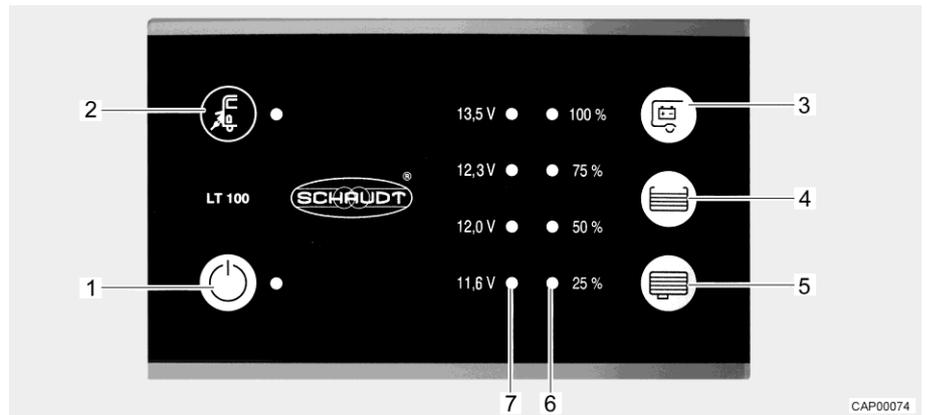

Fig. 41 Panel (LT 100)
**Mains connection** The yellow LED at the mains connection symbol "⚡" (Fig. 41,2) is lit when the vehicle is connected to an external mains supply. In this case, the LED will also be lit when the panel is switched off.
The 12 V main switch (Fig. 41,1) switches the panel and the 12 V power supply of the living area on and off.
**Switching on:** ■ Press switch "⏻" (Fig. 41,1): The 12 V living area power supply is switched on. The LED lights up green.
**Switching off:** ■ Press switch "⏻" (Fig. 41,1) again: The 12 V living area power supply is switched off. The LED goes out.
The LED array (Fig. 41,7) displays the battery voltage of the living area battery as follows:
- Press the button " " (Fig. 41,3): The battery voltage of the living area battery is displayed.
The LED array (Fig. 41,6) displays the fill level of the fresh water tank or of the waste water tank.
Press the button "☰" (Fig. 41,4): The fill level of the fresh water tank is displayed by lit LEDs.
Press the button "☰" (Fig. 41,5): The fill level of the waste water tank is displayed by lit LEDs.